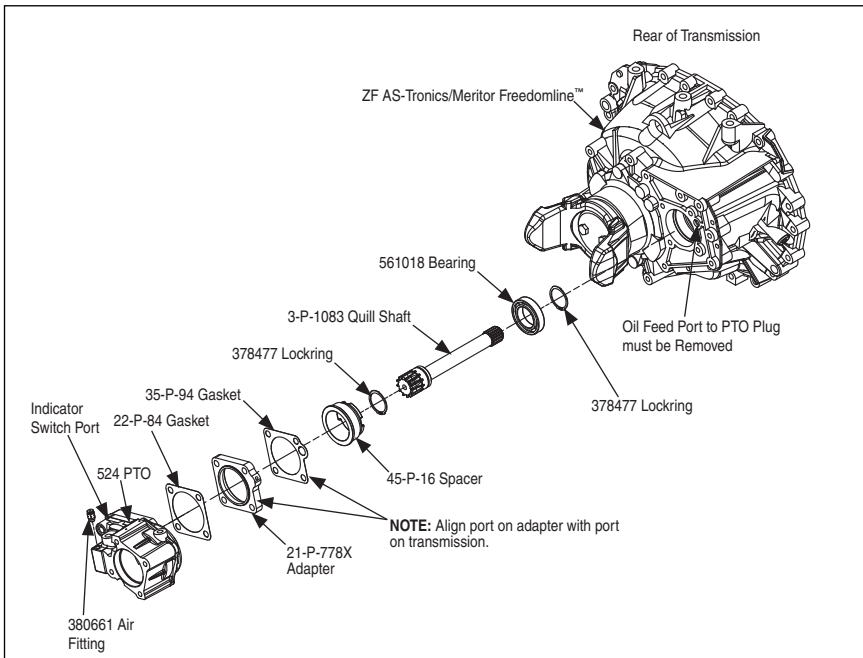

Figure 6
2. The 524 must be positioned as shown in **Fig. 6**. This will allow for proper lubrication of the PTO. **The oil feed port on the transmission and the PTO oil feed port must line up for proper operation.** Also there may be a transmission end yoke swing diameter clearance issue if not mounted in this position.